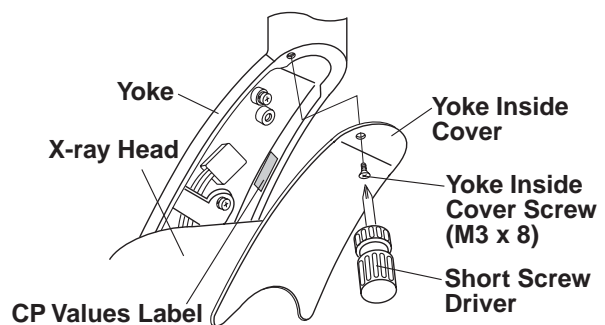

Fig.3-15 Removing Yoke Inside Cover
2. Open the yoke inside cover of x-ray head by removing (M3 x 8mm) countersunk screw. (Fig.3-15)
8. Reattach the yoke inside cover with the screw (M3 x8mm). Before closing the cover, note the CP values on the CP values label inside of the yoke. **(Fig.3-15)**